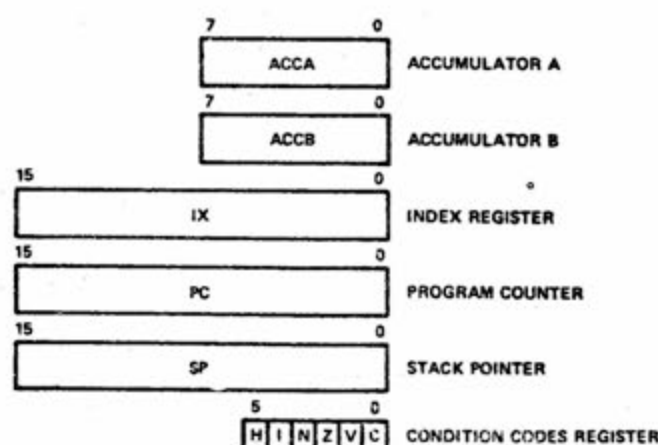

Figure 2 Programming Model of M6800
Within the microprocessor is an Arithmetic Logic Unit (ALU). This portion of the chip logic performs all of the basic arithmetic types of operations (add, subtract, compare, etc.) on two operands. Because it must perform these operations in a particular sequence, the ALU is controlled by one of the MPU registers called the Program Counter (PC) (see Figure 2). Once a program (sequence of instructions) is loaded into memory, the Program Counter is loaded with the address of the first instruction of the program. When the computer is put into the RUN mode, the MPU puts the address contained in the PC onto the address bus and reads the contents of that location via the data bus. The instruction that has been read is executed after the PC is incremented to point to the next instruction. This sequence is repeated until the processor is halted.
Figure 2 courtesy of Motorola, Inc.